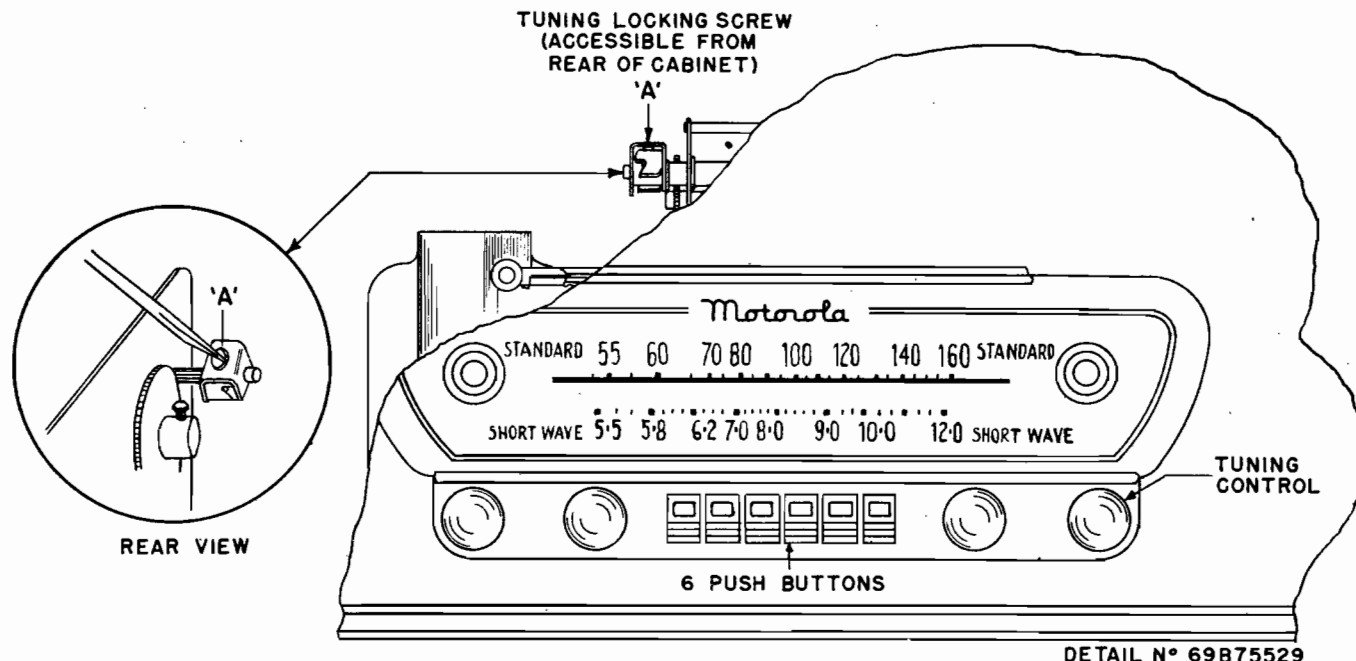

FIGURE 4. TUNER LOCKING SCREW LOCATION
2. While waiting for the radio to warm up, loosen the tuner locking screw (A) all the way. The locking screw is accessible from the rear of the cabinet. (See Figure 4).